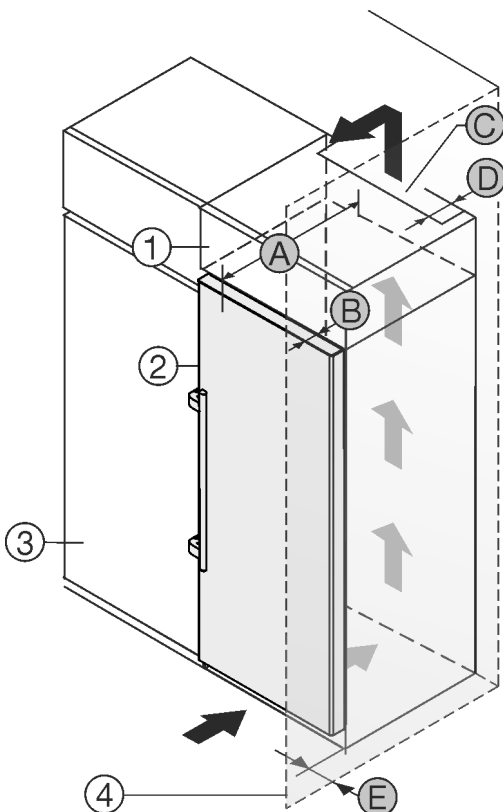

Fig. 25
The appliance can be built into kitchen units. A top cupboard Fig. 25 (2) can be added above the appliance in order to bring the appliance Fig. 25 (1) up to the height of the fitted kitchen units.
If the appliance is positioned directly next to a kitchen cabinet Fig. 25 (3), a distance of at least 5 cm from the appliance is necessary. The appliance must protrude by the depth Fig. 25 (B) from the front of the cabinet so that the doors can be opened fully. The appliance may protrude further depending on the depth of the kitchen cabinets and whether wall spacers are used.
- At the back of the top cabinet, there must be an air outlet shaft with depth Fig. 25 (D), spanning the entire width.
- The ventilation shaft Fig. 25 (C) must be observed under the ceiling.
If the appliance is installed with the hinges next to a wall Fig. 25 (4), the distance Fig. 25 (E) between the appliance and the wall must be observed. This is how far the handle protrudes when the door is open.